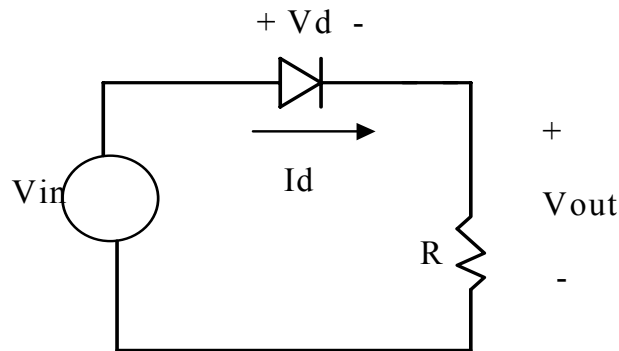

Figure 1-5: Circuit for the experiments a-d.
The I-V characteristics for a diode can be displayed on an oscilloscope in X-Y mode. A time varying voltage source must be used in order to trace both the forward and reverse bias characteristics of the diode. By connecting up the circuit in Figure 1-5, the diode current (V_r/R) can be found by measuring the voltage across R and the diode voltage can be found by measuring it directly. Thus one of the oscilloscope probes must be placed across the resistor and the other across the diode. Remember that channel 1 is the X-axis and channel 2 is the Y-axis. So connect the appropriate channel across the appropriate device. Considering that the two oscilloscope probes have a common ground, how would you connect up the scope? Also remember that the probe grounds are physically connected to the ground of the source through the AC supply ground. How can this problem be solved? Think about it before asking the TA. You will get extra credit for coming up with a solution on your own.
- Connect the circuit in Figure 1-5. Use $R = 100$ ohms and a 1N4004 diode.
- Connect of the circuit in Figure 1-5. Use $R = 100$ ohms and a Zener diode.
- a) Use the circuit in figure 1-5. Use a 1N4004 diode. (This may already be in place.) For the input signal, use a square wave signal. The frequency may have to be adjusted in order to see the recovery artifact.